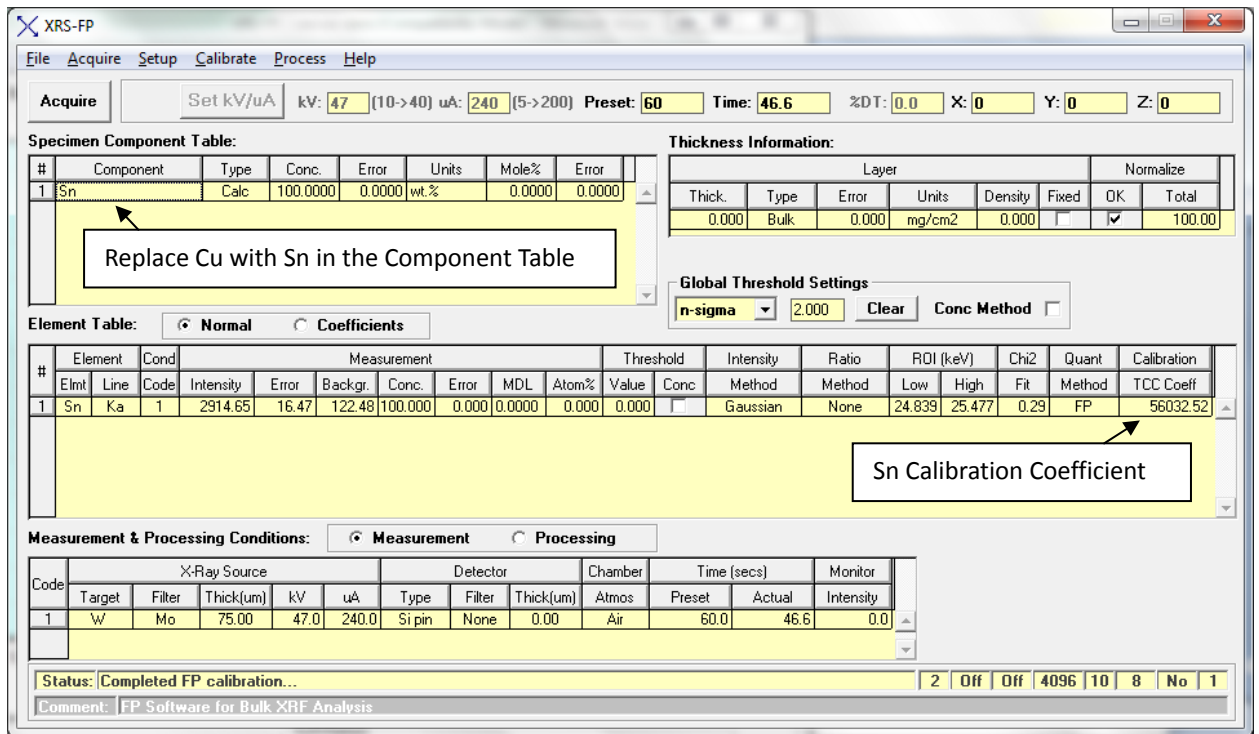

Figure 12
- 9.4. Generate the Sn Calibration Coefficient – **Calibrate>FP** a TCC calibration coefficient for Sn is generated – Figure 12